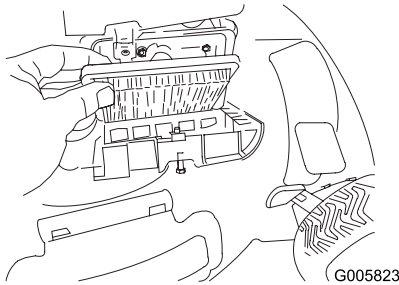

Figure 38
2. Replace the air filter (Figure 38).